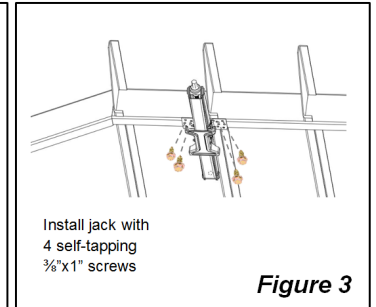

Figure 3
8. Reposition the jack and install the 4 self-tapping 3/8" x 1" screws, as shown in **Figure 3**. Turn screws until they seat and are tight.
8. Repositionner le cric et installer les quatre vis autotaraudeuses de 3/8 x 1 po, comme le montre la **Figure 3**. Bien serrer les vis.